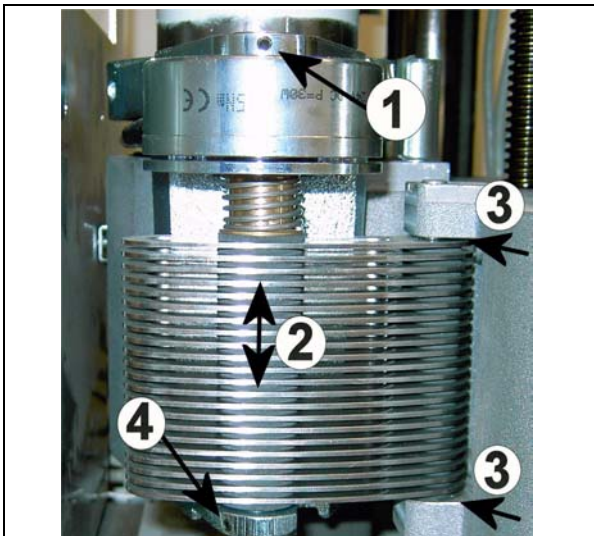

Fig. 6
For the adjustment the entire swivel brake can still be shifted slightly vertically in the holder (see arrow 2 / Fig. 6). The C-arm should be in the mid-position before the adjustment is made.
- Screw the grub screw 1 / Fig. 6 into the new upper mounting bracket, but do not tighten it yet.
- Adjust the swivel brake in vertical direction so that the disks lie in the approximate center in the holder. The play between disk and holder at the points 3 / Fig. 6 should be approximately the same.
- Tighten the grub screw 4 / Fig. 6 slightly, so that the swivel brake does not slip down on its own.
The play at the positions indicated with arrows 3 / Fig. 6 must be at least 0.5 mm between disk and holder.
- Finally, tighten the two grub screws 1 / Fig. 6 and 4 / Fig. 6.